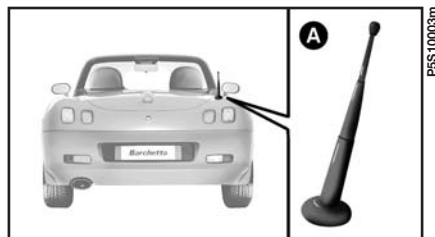

fig. 78
- a dual function, electrically-operated aerial (sound system and cellular phone) **A-fig. 78** located in the rear right-hand part of the vehicle;